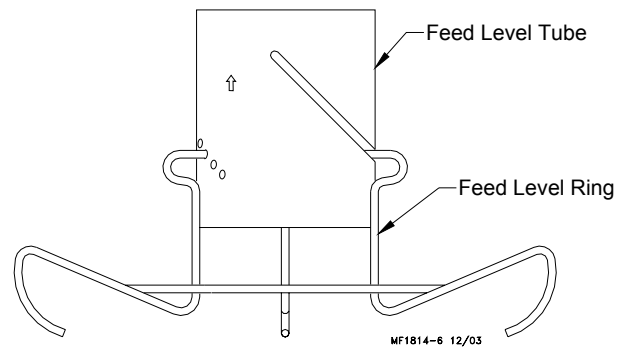

Figure 17. Adult Turkey Feeder Feed Level Ring Plastic Pan
3. Assemble the feed level tube and feed level ring as shown, see **figure 17**.
- Position the feed level ring in the fourth hole from the top for the steel adult turkey feeder pan, see **figure 17**.